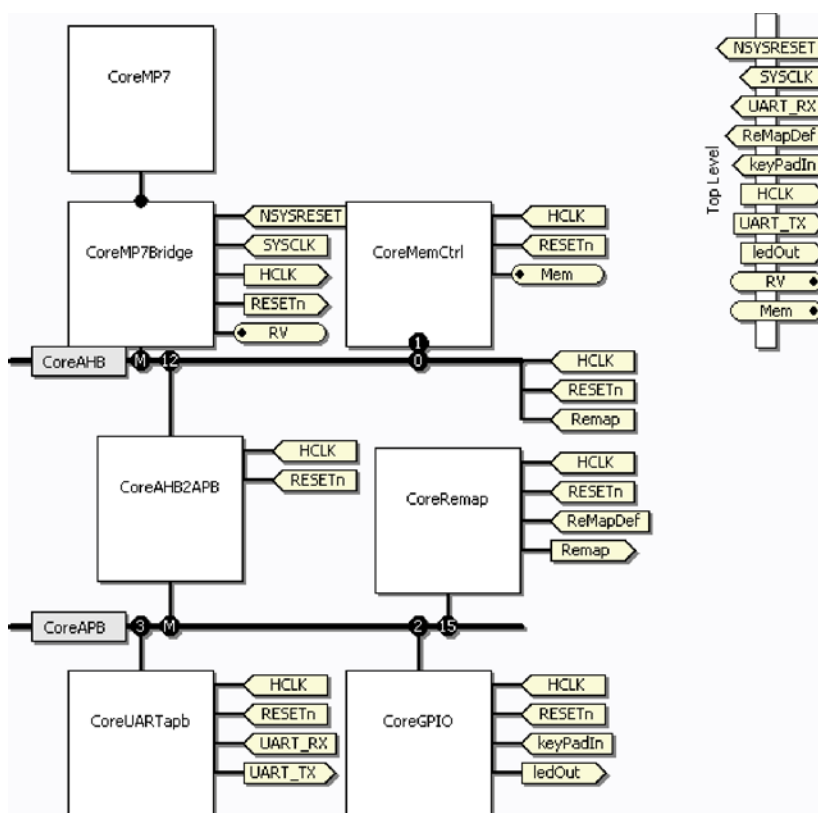

Figure 5-12. CoreConsole Schematic after Connecting CoreGPIO and CoreRemap
5. Once completed, your CoreConsole schematic should look similar Figure 5-12.